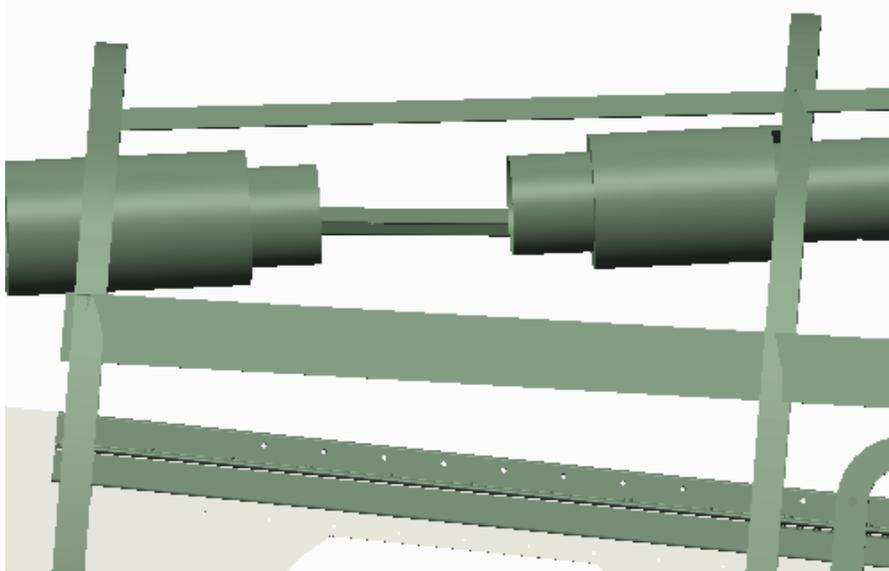
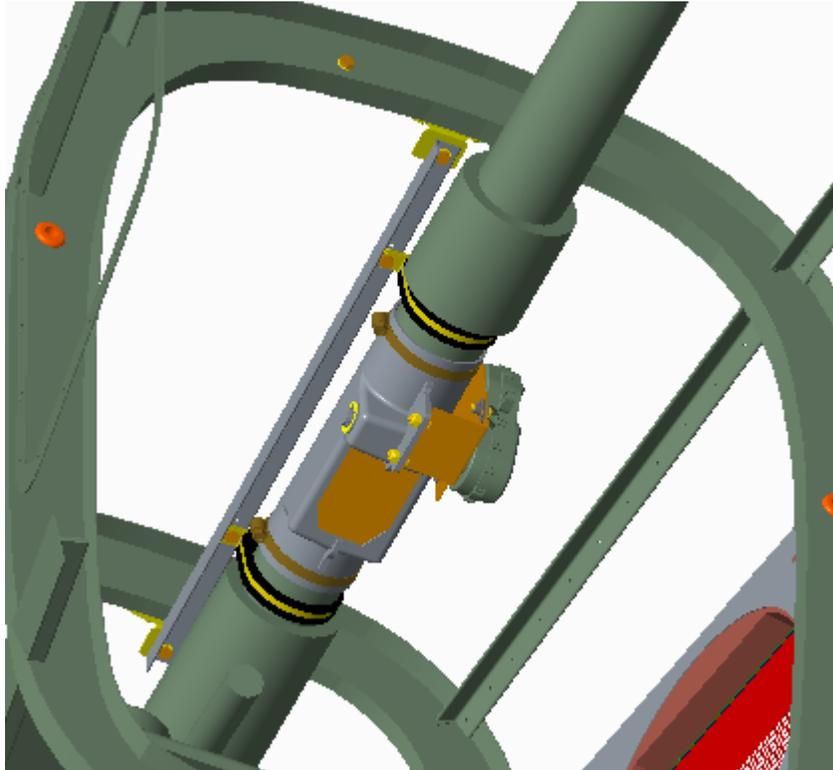

Figure 9 – Trim Insulation & Cut Pipe
Figure 12 – Secure Diverter & Duct Front View
- 1) Cut the cabin air duct, trim the insulation back and install the Air Diverter as per Notes 4.1 through 4.5. See Figure 9 through Figure 12 below.